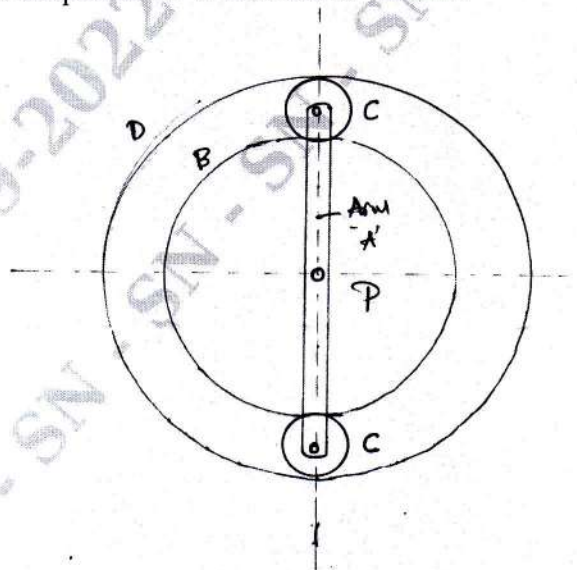

Fig.Q8(b)
b. The Fig.Q8(b) shows an epicyclic gear train where the arm 'A' is the driver and annular gear 'D' is the follower. The wheel 'D' has 112 teeth and 'B' has 48 teeth, B runs freely on 'P' and 'D' is separately driven. The arm 'A' runs at 100 rpm and the wheel 'D' at 50 rpm in same direction, find the torque on 'B' if A receives 7.5 KW.